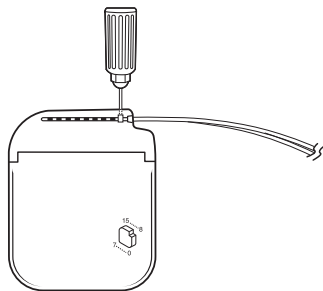

Figure 2. Tightening the setscrews in the self-sealing grommet.
5. For each extension or plug, fully insert the torque wrench (packaged with the neurostimulator) into each self-sealing grommet of the connector block and tighten each setscrew (Figure 2).